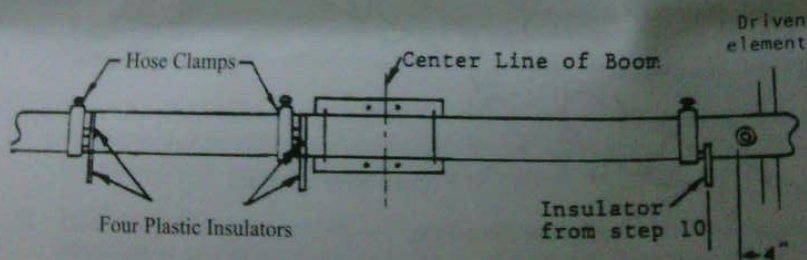

Figure 12a . Location of Insulators
- 11) Mount four plastic Insulators to the boom as shown in figures 12a & 12b. Use two hose clamps to secure the angle brackets to the boom. It will be necessary to tighten the clamps somewhat before placing the insulators in their final positions.